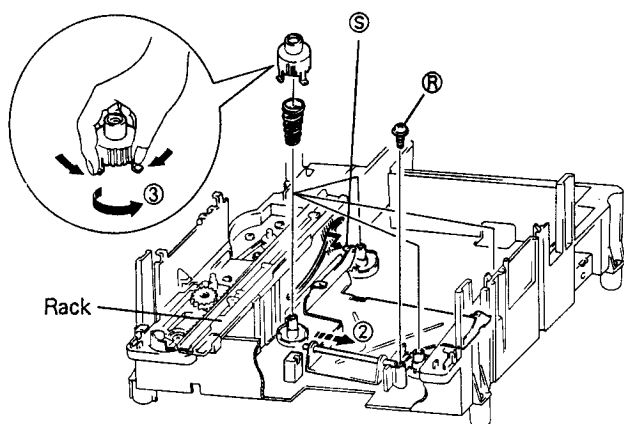

Fig. 4.
1. Push the slide bushing from three directions to compress it as shown in Fig. 4.
2. Remove the slide bushing by turning it in the direction of ③.